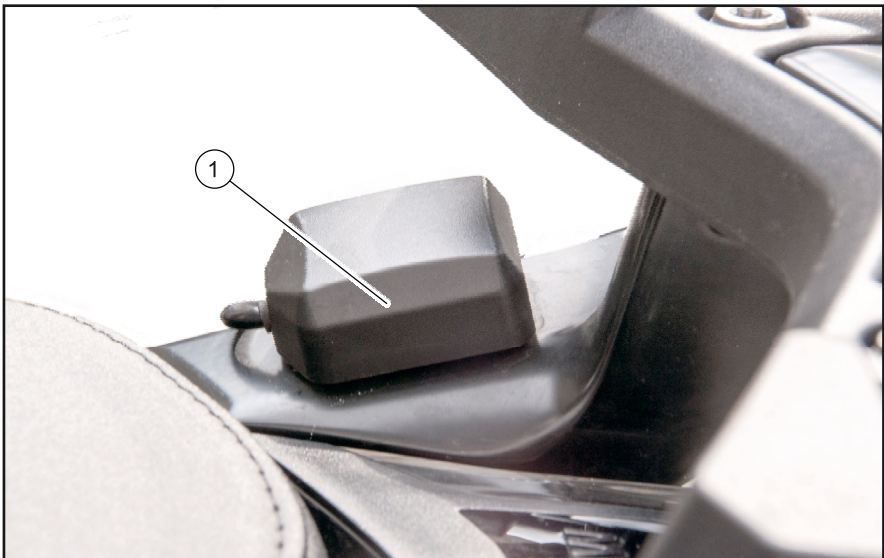

Fig. 7: Example installation location for the GPS antenna
1. Place the GPS antenna (Fig. 7/1) at the planned installation location.